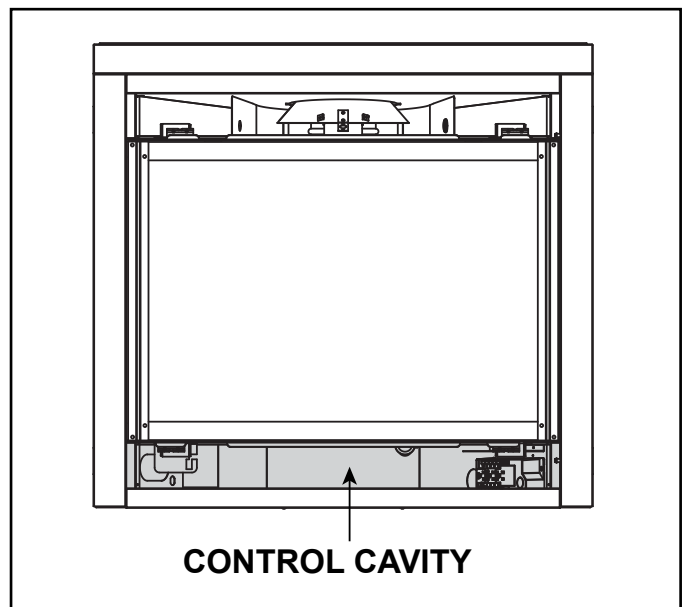

Figure 3.6 ON/OFF Switch/ Control Cavity Location
The IntelliFire intermittent pilot ignition system comes with a battery backup system that enables the system to operate in a power outage. A factory-installed battery pack is located in the control cavity of the appliance. See Figure 3.6. Batteries should not be placed in the battery tray while using electrical power to operate the fireplace. Remove batteries from battery tray when power has been restored.
1. Access the control cavity of the appliance. See Figure 3.6 for location. The decorative front may need to be removed.
2. Locate the battery tray and insert two D cell batteries. Battery polarity must be correct or module damage will occur. See Figure 3.6. A complete wiring diagram is included in the Electrical section of the appliance Installation Manual.